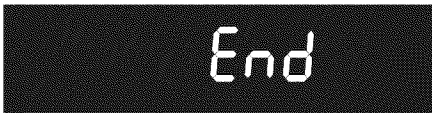

Figure 14: Display showing cooking has ended
**End** will appear in the display window, and the oven will shut-off automatically (Figure 14). The oven control will beep three times every 30 seconds as a reminder until  is pressed.
**End** will appear in the display window, and the oven will shut off automatically (Figure 14). The oven control will beep three times every 30 seconds as a reminder until  key is pressed.